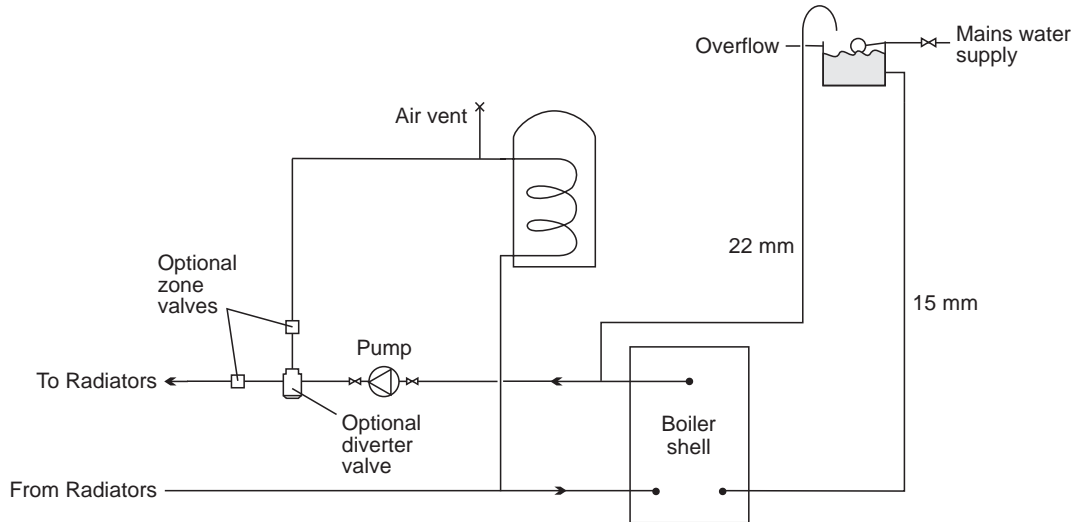

Fig. 10 - 50/70, 70/90 and 90/120 connections shown
3.10.3 Fully pumped - (See Fig. 10)